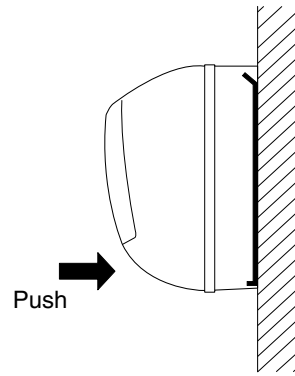

Fig. 3-40
- (1) To install the indoor unit, mount the indoor unit onto the 2 tabs on the upper part of the rear plate.
- (2) Hold down the air discharge outlet and press the lower part of the indoor unit until it clicks to securely fasten to the 2 tabs on the lower part of the rear plate. (Fig. 3-40)